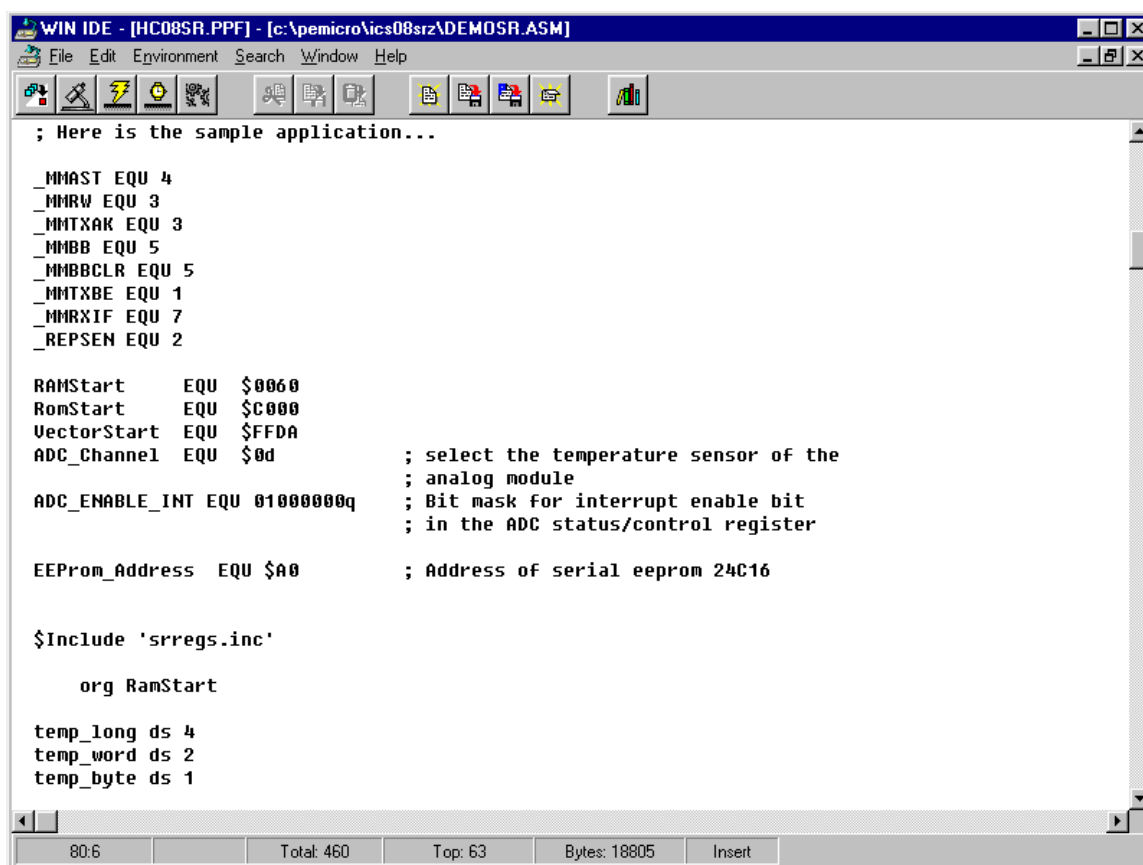

Figure 7. P&E's WINIDE Window
- c. Assemble/Compile the file (see Figure 7).